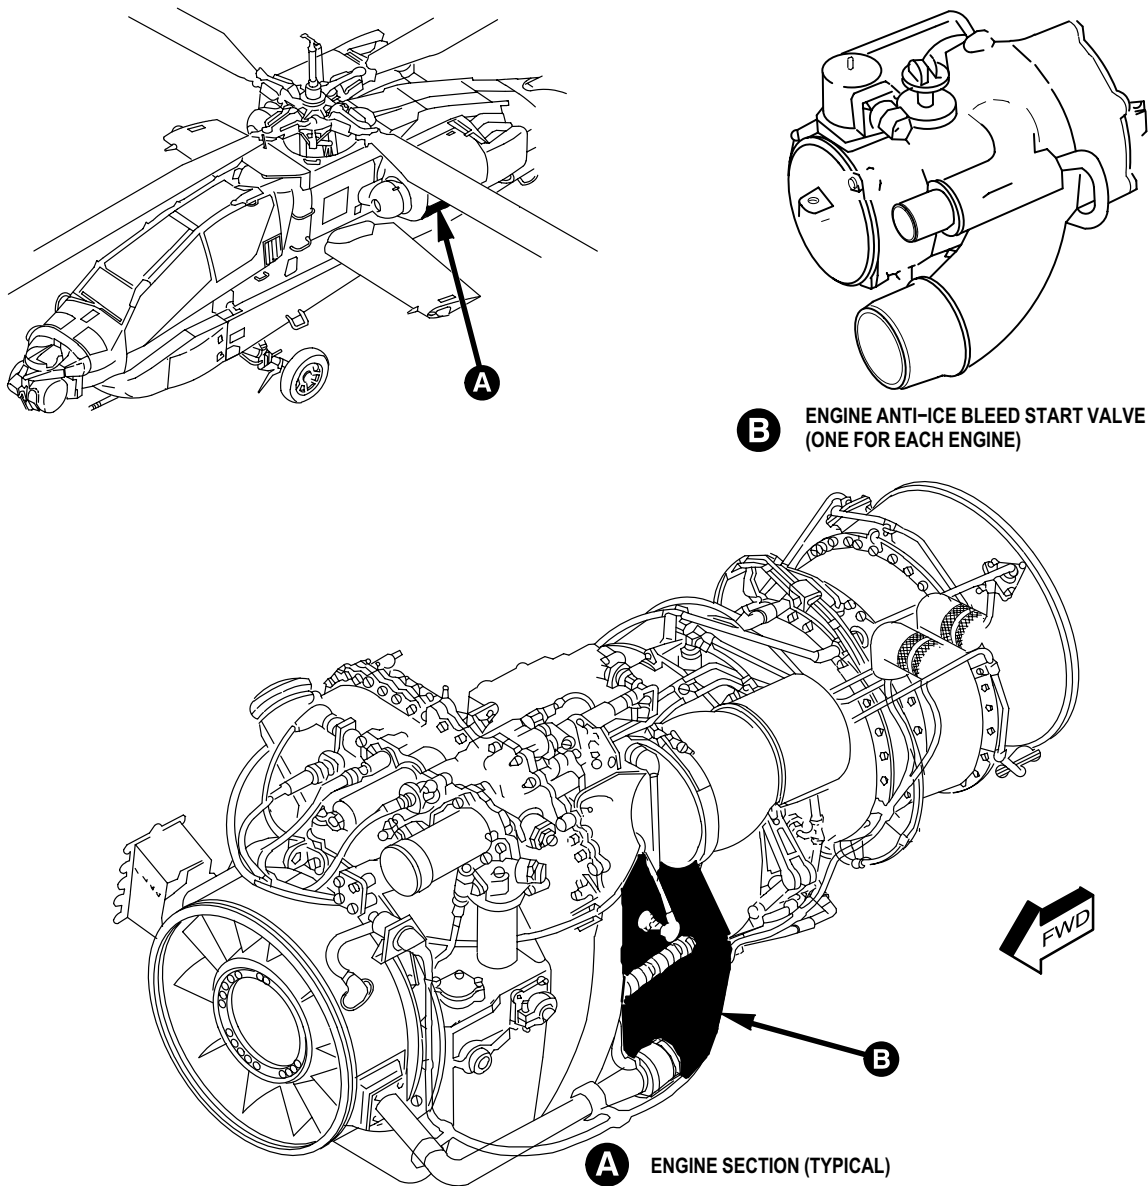

Figure 12-5. Engine Anti-Ice Bleed/Start Valve Location
(1) **Engine Anti-Ice Bleed/Start Valve.** The engine anti-ice bleed/start valve (fig. 12-5), located on the lower left side of the compressor stator of each engine, is a spring loaded open valve that controls anti-icing airflow to the engine and bleeds air from the compressor during start and low engine speeds. The engine anti-ice bleed/start valve is controlled mechanically by a variable geometry actuator and electrically by a solenoid valve.